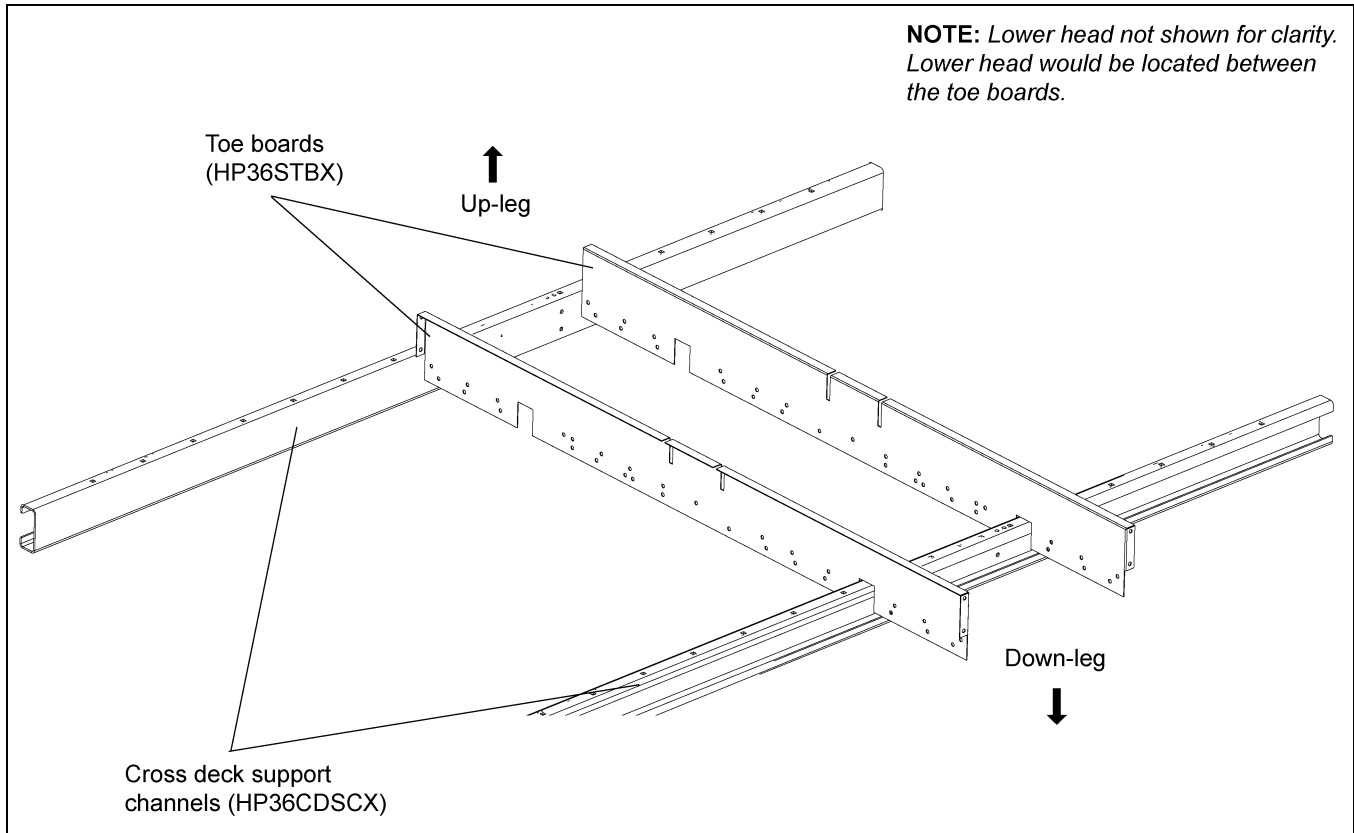

Figure 8G
2. On the drive side slide one toe board (HP36STBX) into place. (See Figure 8G.)